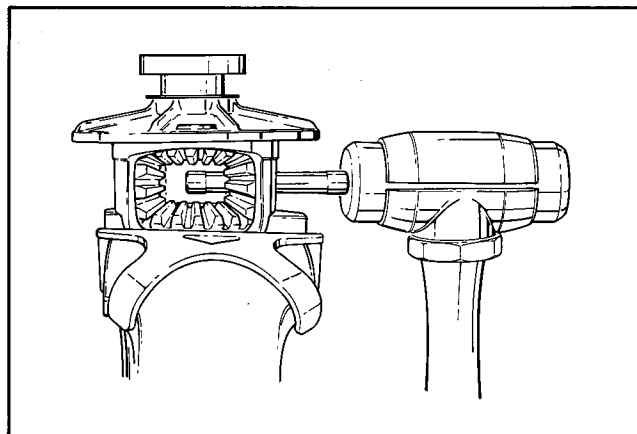

Figure 4-14 – Installing Pinion Mate Shaft
- a. Install thrust washers (18) behind their respective side gear (17) and install in differential case.
- b. Install thrust washers (16) and idler gears (15).
- c. Rotate idler mate gears (15) until idler gear pinion mate shaft (14) can be inserted. Use soft hammer if necessary to drive mate shaft into case. See Figure 4-14.